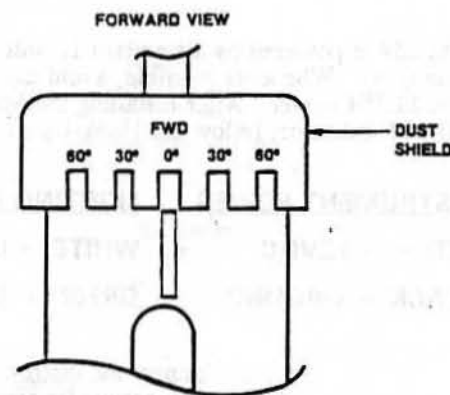

Figure 4A. Alignment of wind vane dust shield.
- A. Turn the dust shield (see Figure 4A) until the FWD 0 degrees notch matches the white alignment mark on the sensor's upper body.